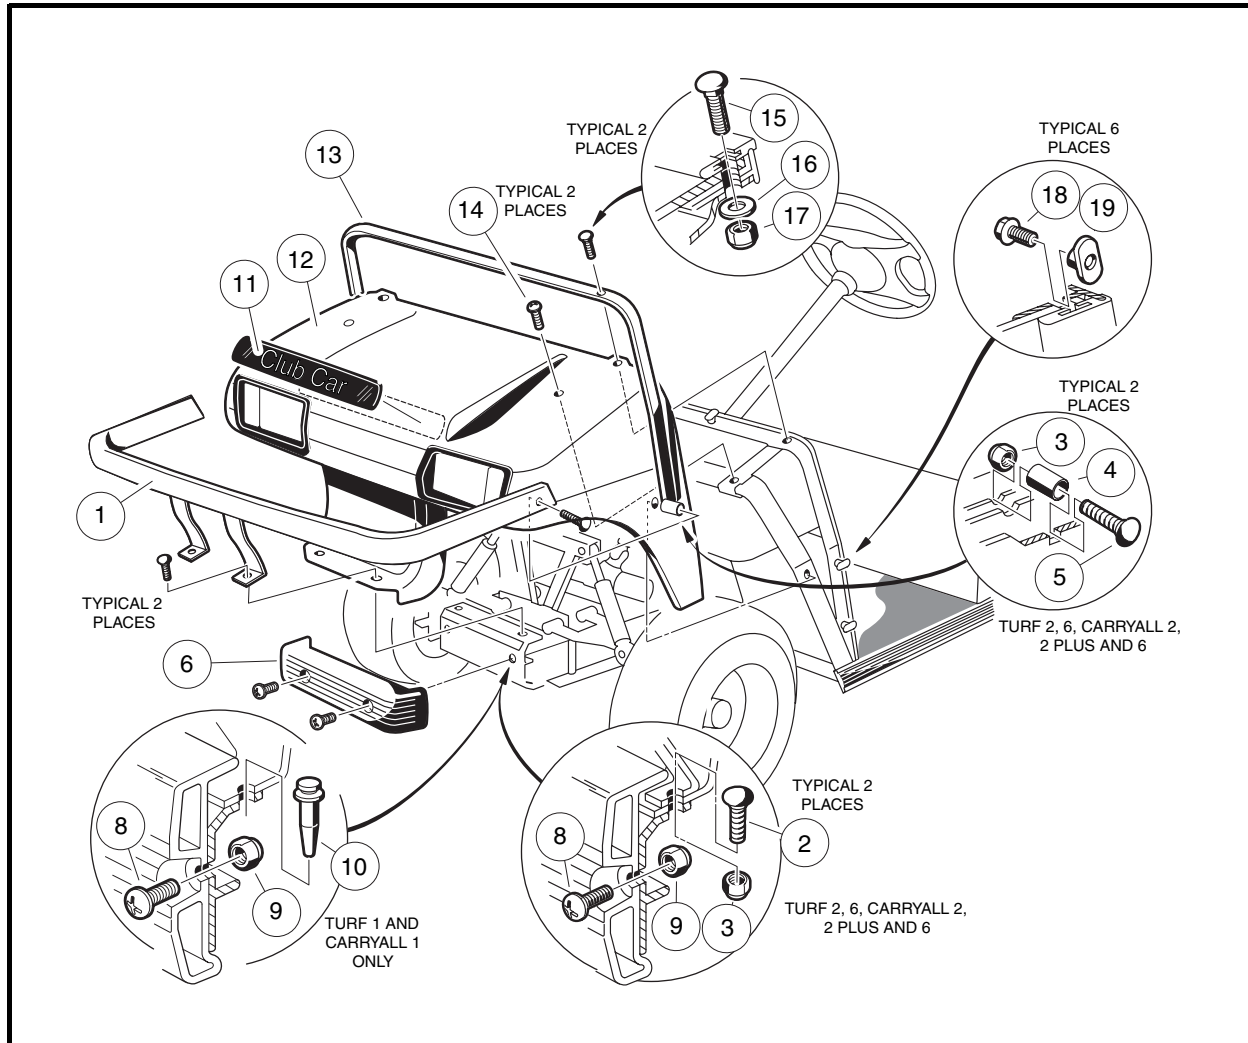

Figure 4-1 Front Body Assembly
1. Remove screws (8) and lock nuts (9) and lift front bumper (6) from vehicle frame (**Figure 4-1, Page 4-4**).
1. Install front body (12) under trim (13), align holes and finger-tighten screws (14) holding front body against frame (**Figure 4-1, Page 4-4**).
2. Install carriage bolts (15), washers (16), and lock nuts (17) onto front body trim. Tighten bolts to 11 ft-lb (14.9 N·m). Tighten screws (14) to 20 in-lb (2.3 N·m). **See following NOTE.**
**NOTE:** If installing a new front body, two 5/16-inch holes must be drilled after the body has been placed on the vehicle. Use the body trim (13) as a guide for drilling the holes.
3. Tighten screws (18) holding front body trim against front body to 17 in-lb (1.9 N·m).
- 5.1. Install two carriage bolts (2) and lock nuts (3) from the heavy-duty front bumper support braces and install bumper (1). Tighten bolts to 65 in-lb (7.3 N·m) (**Figure 4-1, Page 4-4**).
- 5.2. Install two carriage bolts (5), spacers (4), and lock nuts (3) into heavy-duty bumper mounting positions located on sides of front body (12). Tighten bolts to 65 in-lb (7.3 N·m).
6. **Turf 1 and Carryall 1 vehicles:** Install two push type blind rivets (10) that secure lower front body to frame (**Figure 4-1, Page 4-4**).
7. Install front bumper onto vehicle and install screws (8) and lock nuts (9). Tighten to 65 in-lb (7.3 N·m).